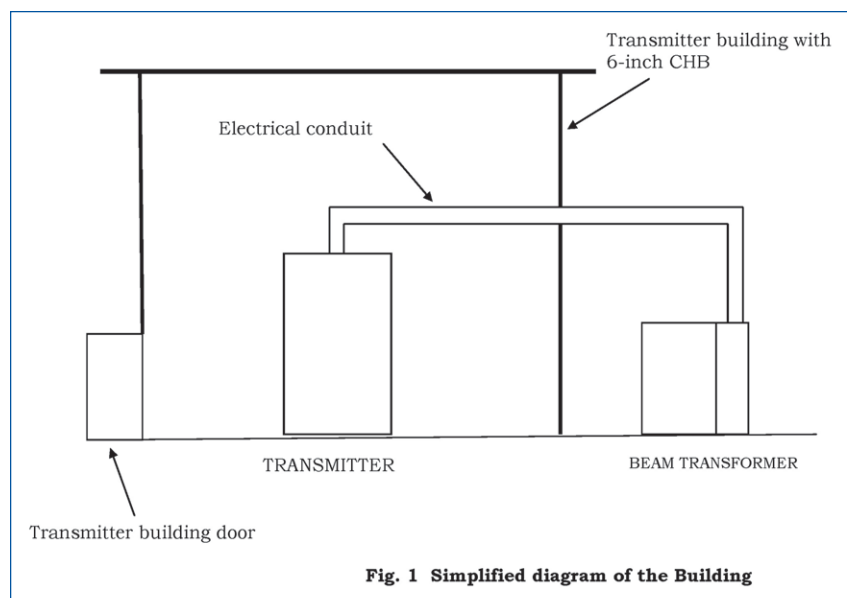

Fig. 1 Simplified diagram of the Building
**Figure 1** shows the simplified air flow inside the building, including the metal conduit and the beam transformer cabinet at the back of the building. This is the simplified block diagram I came up with in order to see what was going on.